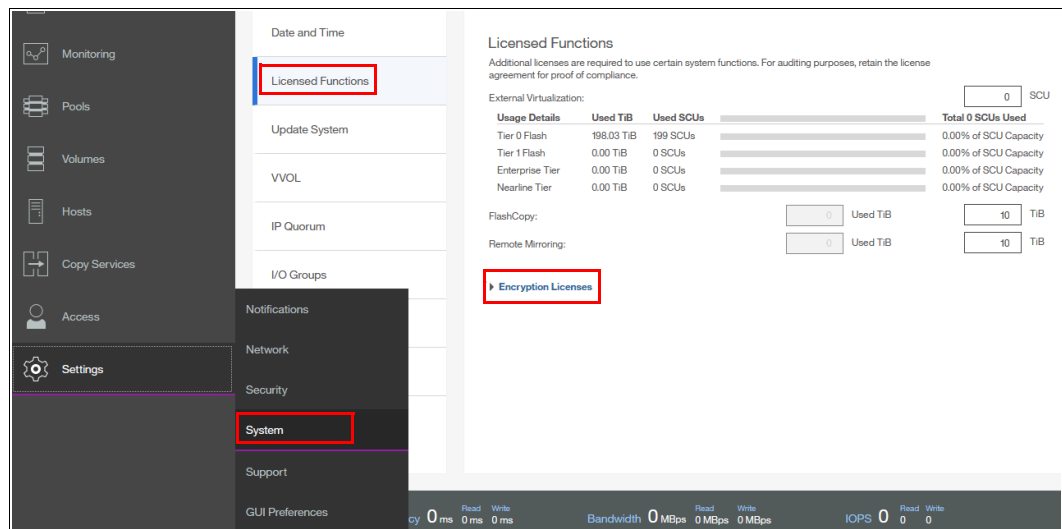

Figure 7-13 Expanding Encryption Licenses section on the Licensed Functions window
2. Click **Encryption Licenses**, as shown in Figure 7-13.